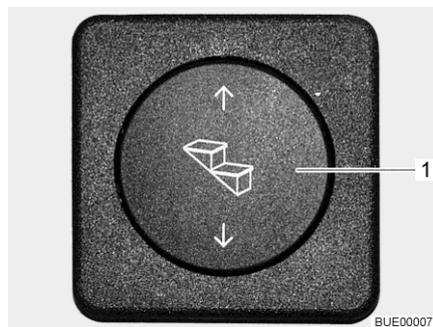

Fig. 1 Rocker switch for entrance step
- Extending:** ■ Press the rocker switch (Fig. 1,1) down until the entrance step has extended completely.
- Retracting:** ■ Press the rocker switch (Fig. 1,1) up until the entrance step has retracted completely.